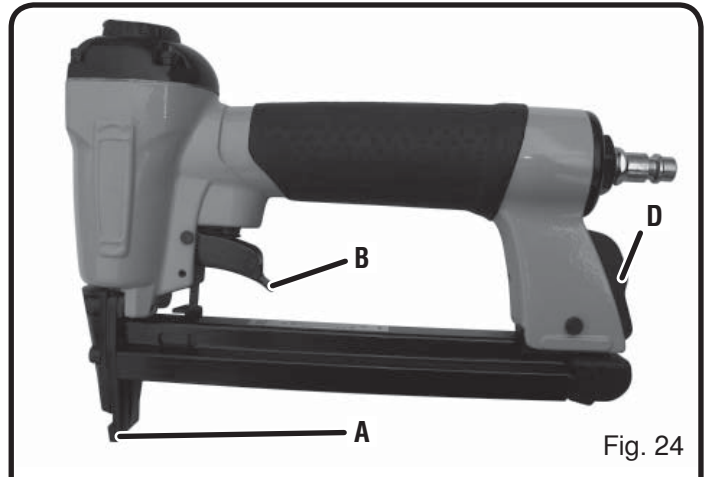

Fig. 24
- 3) Remove the finger from the trigger and press the safety (A - Fig. 24) against the wood.
This tool is equipped with the safety (A) (Fig. 24) and does not operate unless the safety is depressed.
- 1) Position the nail outlet on the workpiece with finger off the trigger (B).
- 3) Pull the trigger (B) (Fig. 24) to drive a nail.